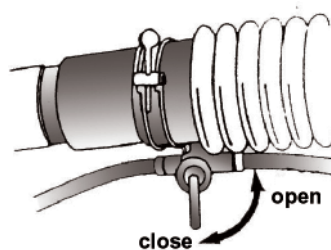

Fig. 7
a) During spraying operation, while adding chemical, the switch must be shut, see Fig. 7